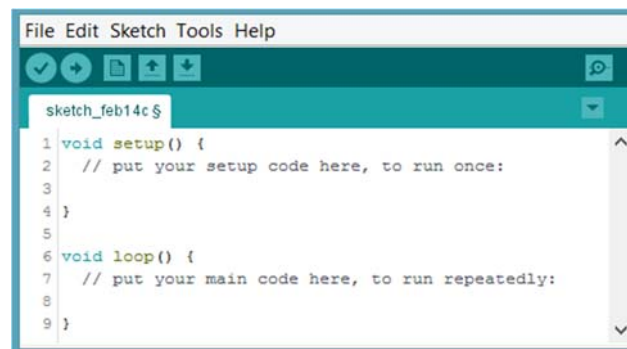

Figure 5: A new sketch
- 5.1.3 Type Ctrl+N or click on File -> New to create a new file. The IDE will open a new window filled with the two basic functions: `setup()` and `loop()` as shown in Figure 5. The 1st function `setup()` is where you put your initialization code which will run only once. The 2nd function `loop()` is the main program which will run repeatedly. Note: You can now close the first window with the last sketch stored that was open when you run the IDE in Step 5.1.2.